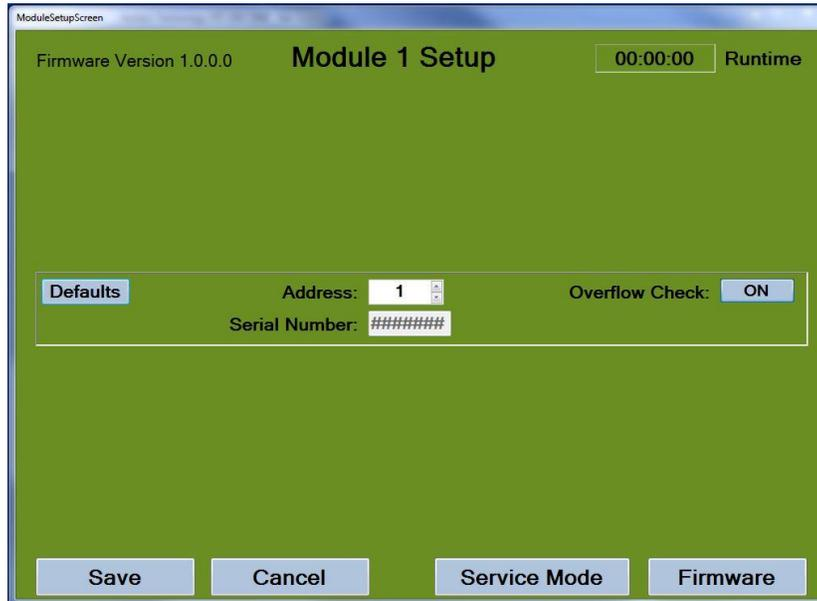

Figure 5-17. Module Setup Screen
- Step 3:** Click **Module Setup**. The Module 1 Setup screen is displayed as shown in Figure 5-17: